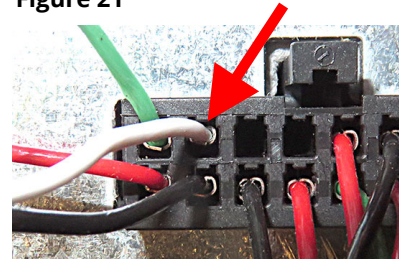

Figure 23
28. Insert the white wire into the position directly to the right of the green wire and above the black wire inserted in step 27 (pin 15) (see Figure 23).